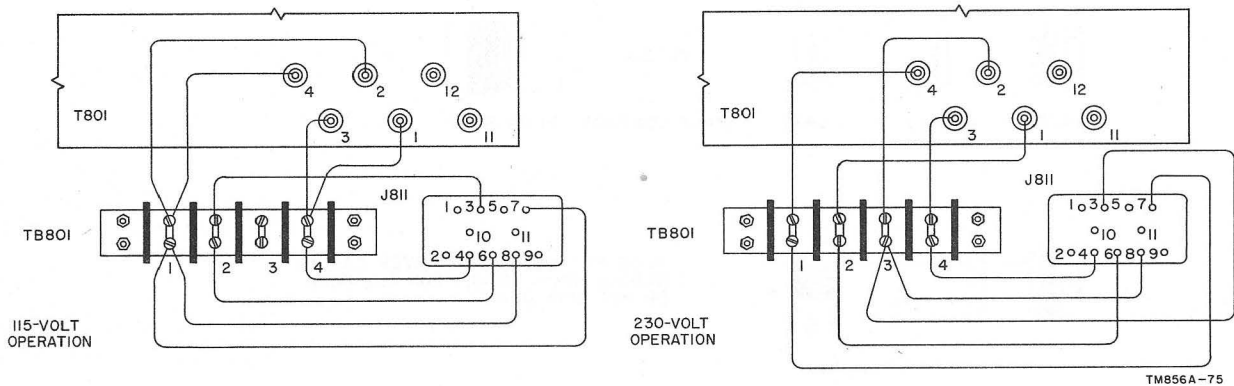

Figure 7. Connections for 115-volt or 230-volt operation.
Caution: Check to see that TB801 is connected for the correct ac voltage (fig. 7). This terminal board can be reached when the power-supply subchassis is removed from the bottom of the receiver (par. 128). See figure 72 for the locations of TB801 and J811.
a. *Power Input* (fig. 7 and 8). For 115- or 230-volt, 48- to 62-cps operation, plug the ac power cord into the ac power source.
Caution: Set the ac power supply of the receiver to the correct ac input voltage. Refer to paragraph 15 and figure 7. Be sure that all of the external connections to the receiver are satisfactory for the desired type of operation outlined in paragraphs 15 and 16.